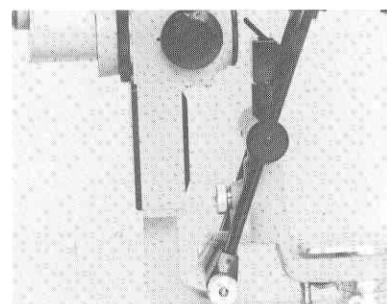
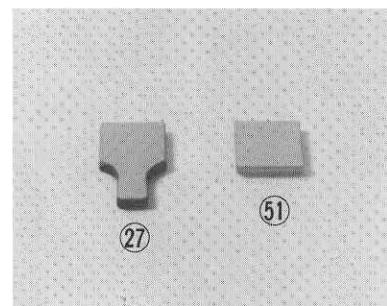

Fig. 37
Fig. 38
The slit inclination stopper engages the slit inclination latch⑨ at 5° intervals, for producing four angles of inclination, or 5°, 10°, 15° and 20°. (See Fig. 37)
(10) Choice of reflection mirror and the exchange of mirrors.
Two types of reflection mirrors are available for use in deflecting the slit illumination toward the patient's eye, or a long mirror⑦, with a tapered handle end, and a short mirror⑤, which is a simple square. (See Fig. 38)